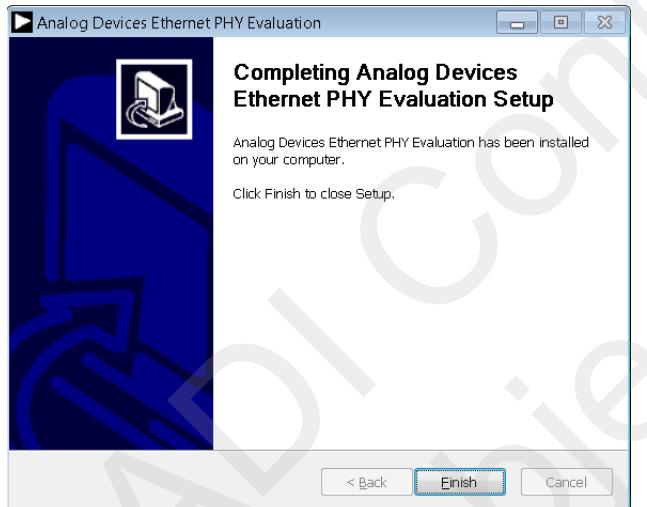

Figure 21. Installation Complete
7. A window appears stating that the installation is complete. Click **Finish** to continue (see Figure 21).